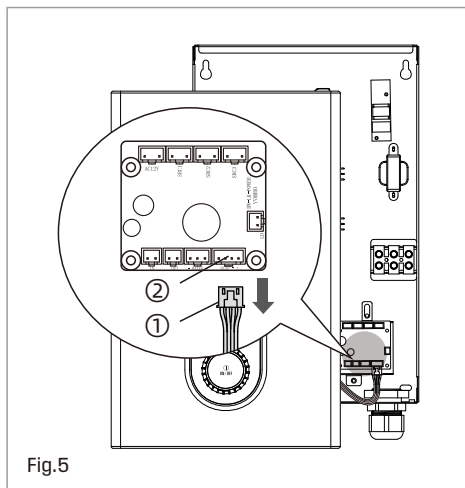

Fig.5
5. For easier installation, carefully unplug ① the display connect wire from ② the water heater connector (Fig.5).